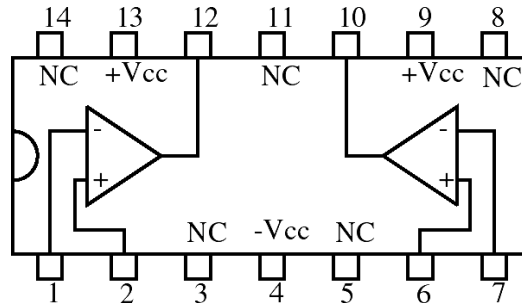

Figure 2: 747 Operational Amplifier
The op-amp we will be using is the 747 as shown in Figure 2. The 747 is a dual op-amp integrated circuit (IC) containing two 741 op-amps.